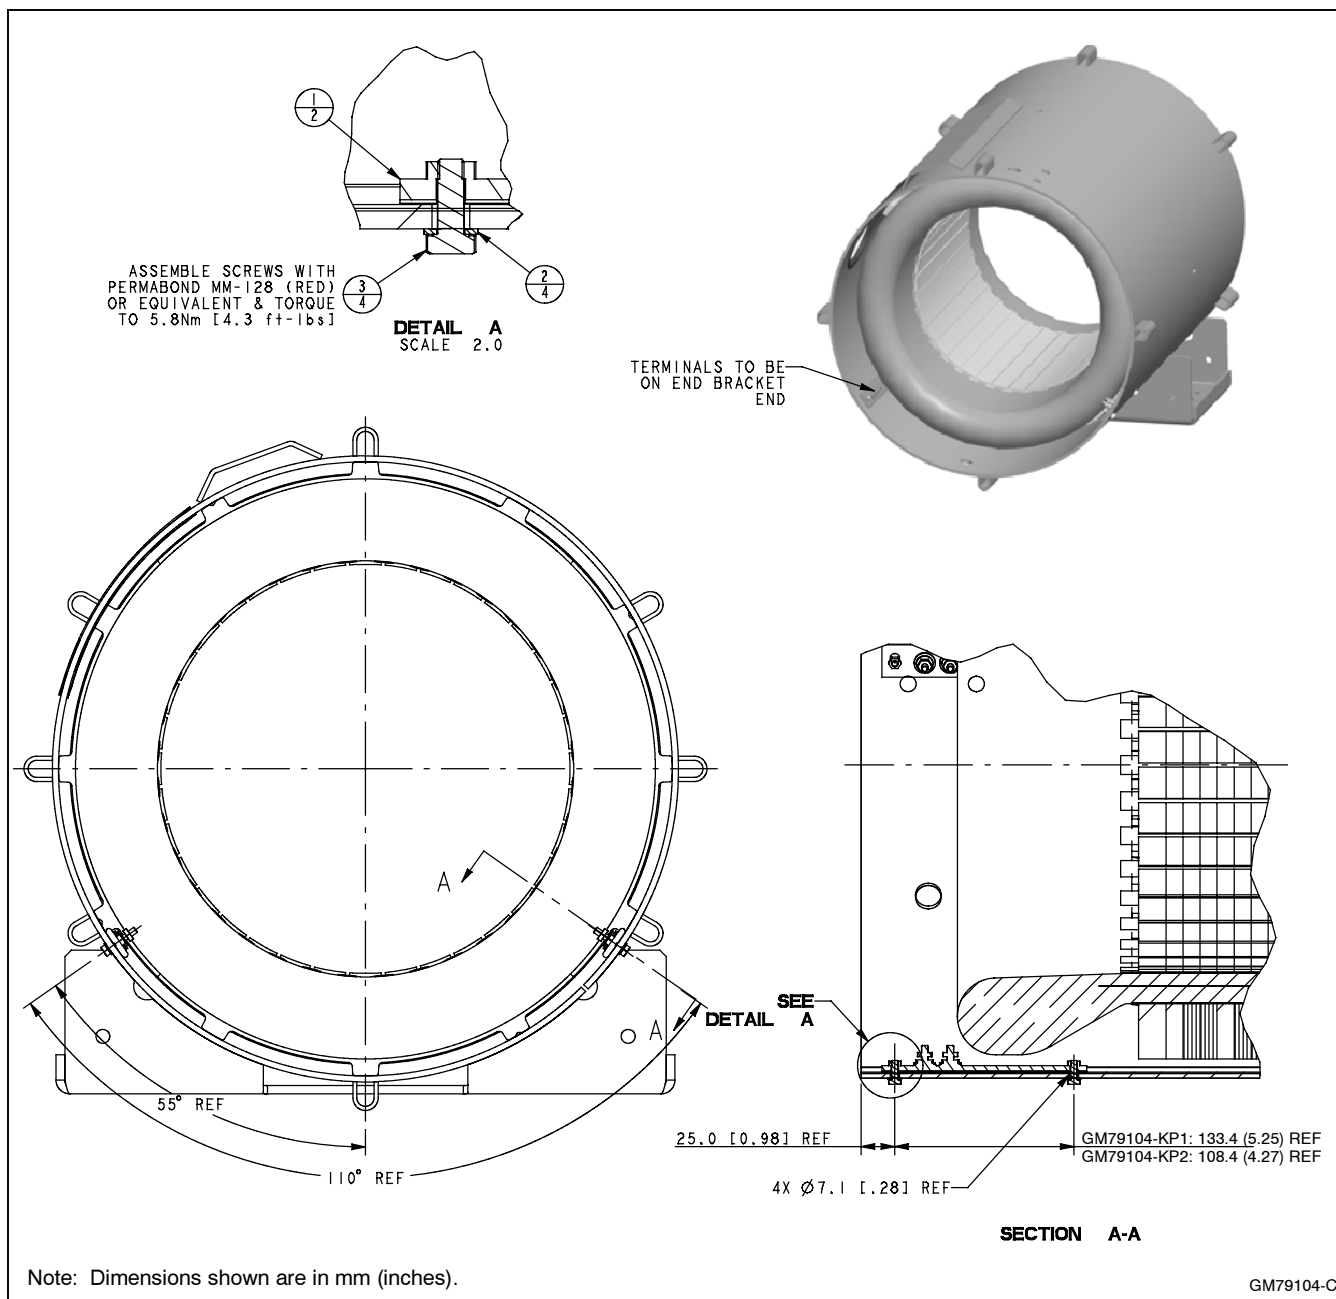

Figure 1 Heater Kit Installation
- 2.4 Connect installer-supplied AC leads to strip heaters. Installation must conform to applicable local and national electrical codes. Position lead terminals perpendicular to strip heater. See Figure 1.
- 2.7 Assemble the screws (M933-05020-60), flat washers (M125A-05-80), and strip heaters (GM79574 or GM85733) to the existing holes in the stator shell as shown in Figure 1. Position the strip heaters with the AC terminals closest to the end bracket. Torque the screws to 5.8 Nm (4.3 in. lbs.). Do not over-tighten the hardware.